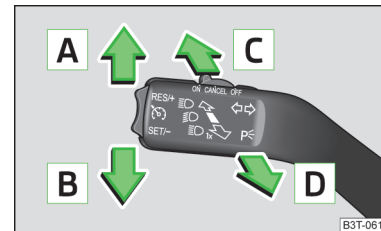

Fig. 49
- Pull the turning signal and main beam lever (» Fig. 49 on page 67) towards the steering wheel, push down and hold in this position.
Lever positions » Fig. 49